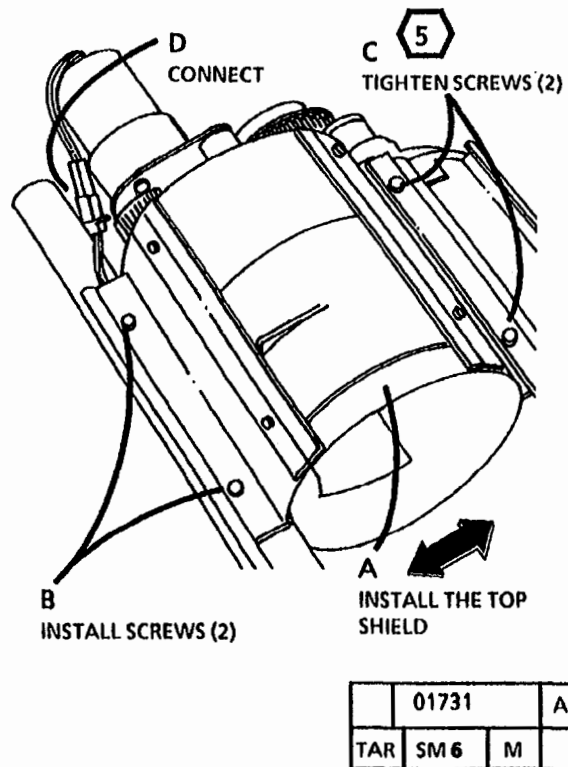

Figure 14. Reinstall the Top Shield
22. (Figure 14): Reinstall the Top Shield.